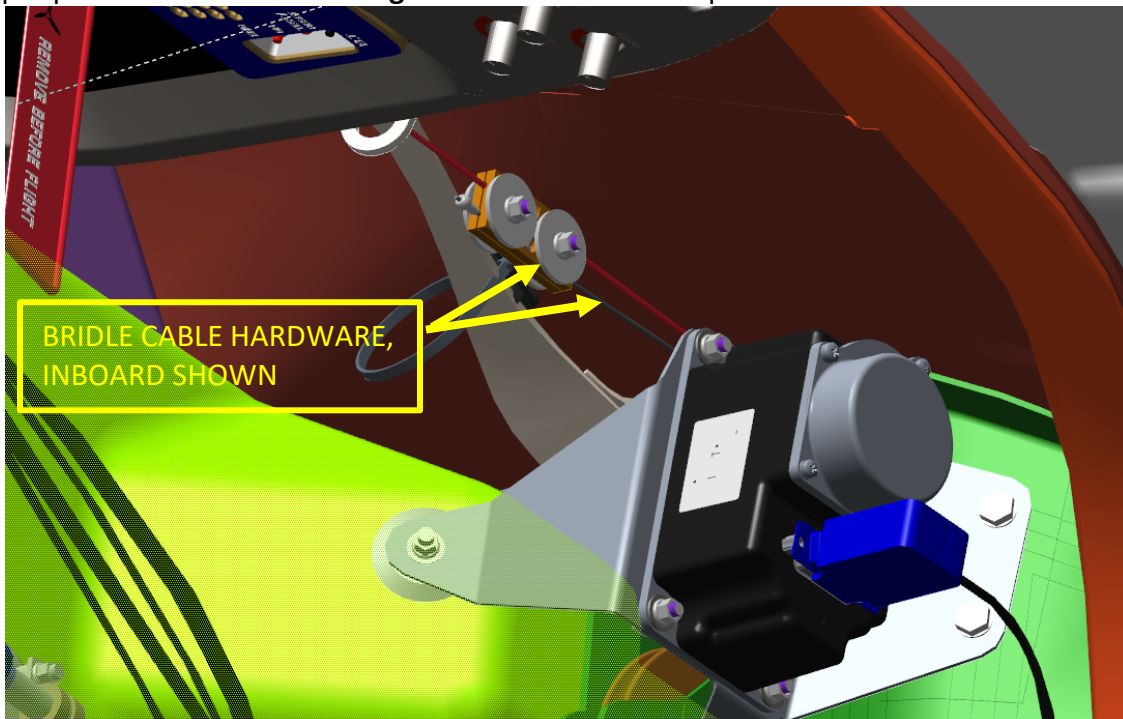

Figure 1: Remove inboard bridle cable clamp.
4. Loosen and remove the screws, nuts, and washers that secure the inboard bridle cable clamp to the upper roll cable. See **Figure 1**. Discard the clamp halves and the hardware.